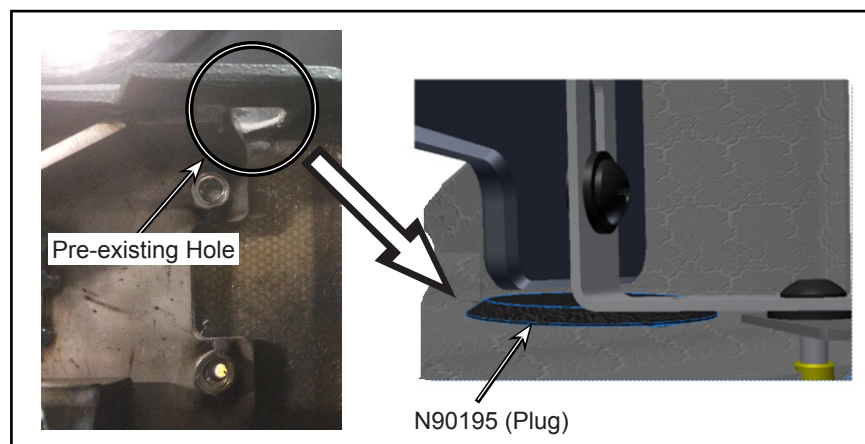

Figure 30 - Location of Pre-existing Hole for Speak Easy Wire
1.34.1. Install the plug (N90195) to cover the hole, which was previously used for speak easy wiring (see Figure 30).